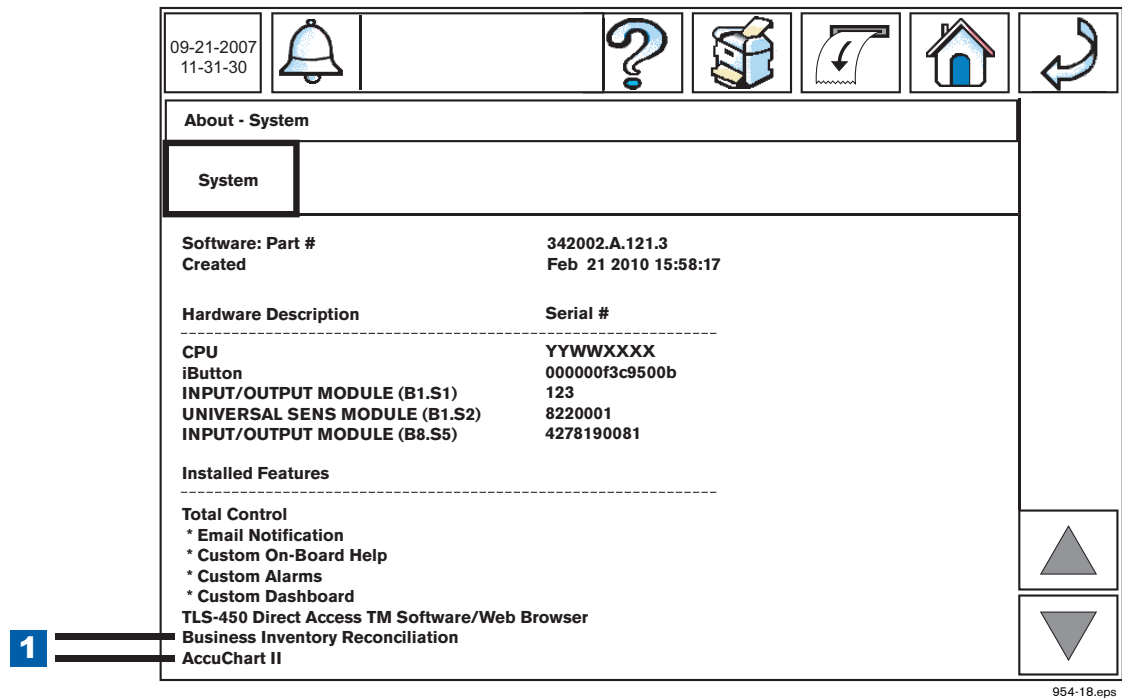

Figure 18. Verifying Installed Software Features
3. Verify that the features you installed are listed in the About screen's feature list (see example in Figure 18).
LEGEND FOR NUMBERED BOXES IN Figure 18